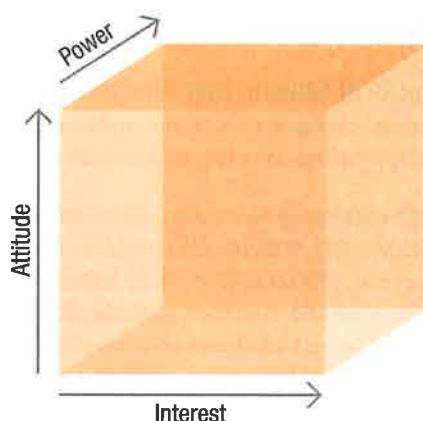

FIGURE 13.3 Stakeholder cube
- **Stakeholder cube⁴** This three-dimensional model is used to represent aspects or dimensions of a stakeholder group. An example is shown in figure 13.3.